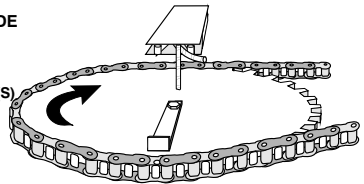

**FIG 1**
- MAKE SURE MOTOR DIRECTION(S) CORRESPOND(S) WITH STATUS LED. (COMPARE FIG 1 AND FIG 2 BELOW).